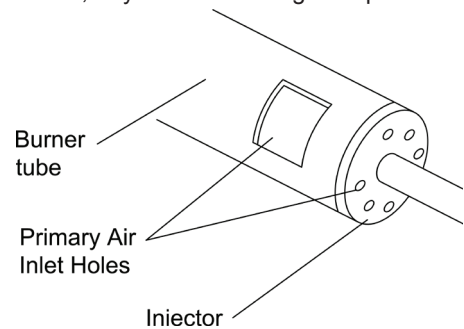

Figure 38— Injector Holder On Outlet Burner Tube
2. Inspect burner, pilot, and primary air inlet holes on injector holder for dust and dirt (see Figure 38).